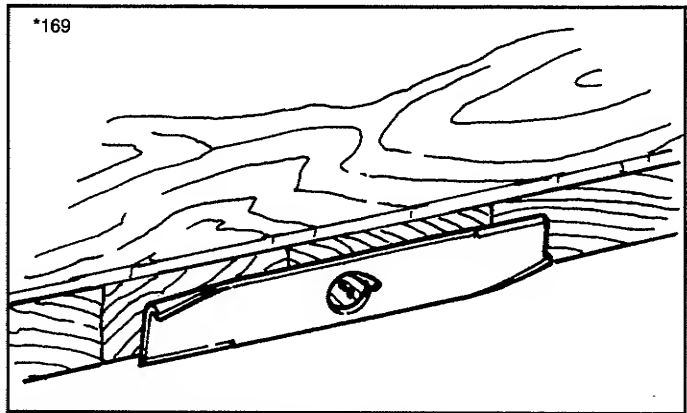

**Figure 23. Removing The Blade**
3. To remove blade for sharpening, use wooden block to hold blade while removing the blade mounting cap-screw (figure 23).